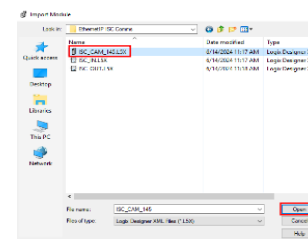

Figure 28: Import Module File Explorer GED_ISC_CAM_v2.L5K
11. A file explorer window “Import Module” will open. Navigate to GED_ISC_CAM_v2.L5K and “Open” the file, Figure 28.